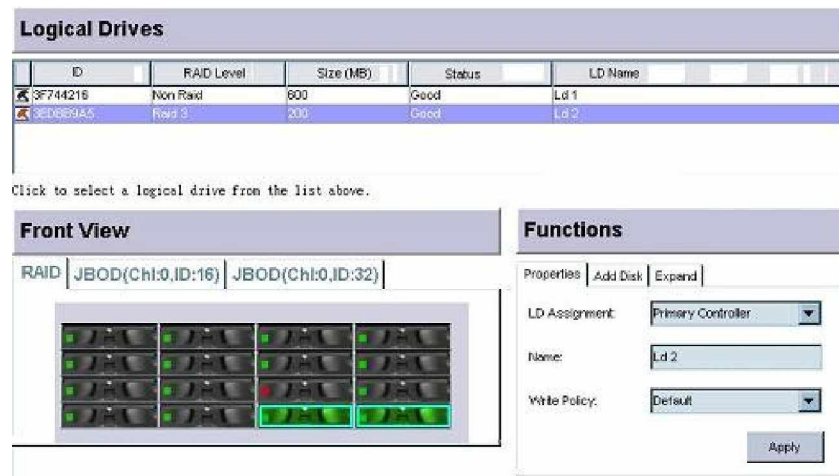
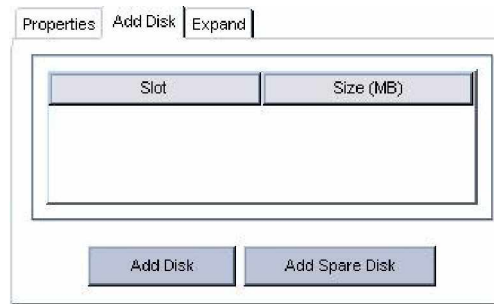

Figure 9-3: List of LDs
Figure 9-10: The “Add Spare Drive” Button
Step 1. Select the “**Existing Logical Drives**” icon from the GUI navigation panel as shown in *Figure 9-3*. All the LDs that have been created will appear in the “Logical Drives” panel.
Step 2. From the list shown in *Figure 9-3*, select the LD that you wish to change its characteristics or configure. Once this LD has been selected, its members will appear in the Front View sub-window. At the top of the “**Functions**” window, three tabs (“**Properties**”, “**Add Disk**” and “**Expand**”) will appear.
shown in *Figure 9-3*. As shown in *Figure 9-10*, the Add Spare button appears next to the Add Disk button.